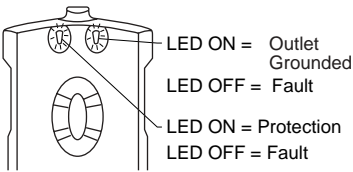

Figure 2: Diagnostic Operation
- One or Both LEDs OFF = Fault (see Figure 2). Have a qualified electrician check the AC power outlet for proper voltage, wiring configuration and ground connection. If all correct, replace unit.